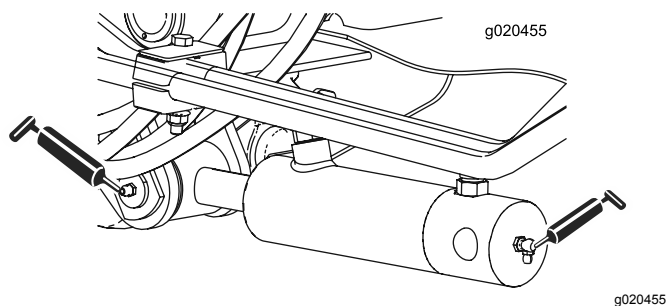

Figure 64
- 2 (each side) lift-arm-cylinder bushings (Figure 64)